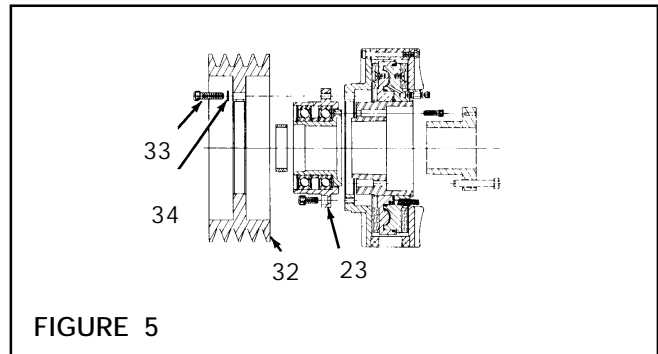

FIGURE 5
NOTE: The Sheave Clutch is a combination of the Element Clutch, Pilot Assembly, and Sheave (See Fig. 5).
- Slide the Sheave (Item 32) onto the Pilot Assembly (See Fig. 5).
- Align the sheave mounting holes with the tapped holes in the Pilot Housing (item 23) (See Fig. 5).